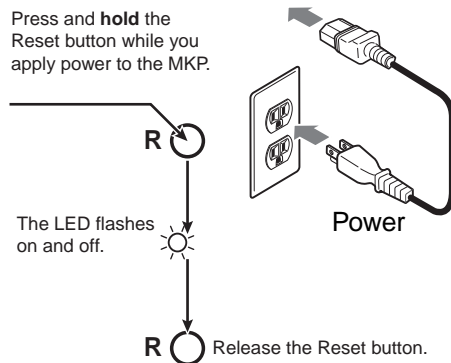

Figure 3-5 — Hard reset
2. Press and **hold** the Reset button on the rear panel **while** you apply AC power to the MKP (figure 3-5).